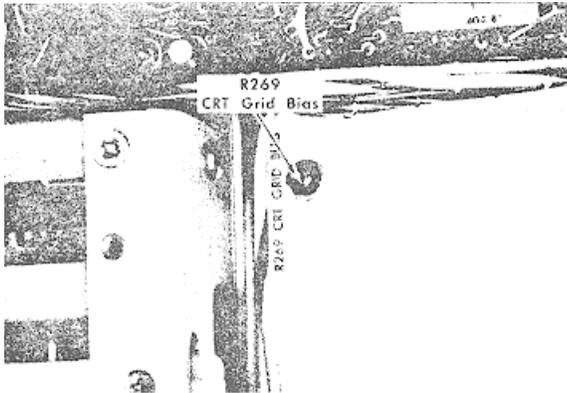

Fig. 5-4. Location of R269, CRT Grid Bias.
c. ADJUST—R269, CRT Grid Bias (Fig. 5-4) for a trace of medium brightness.